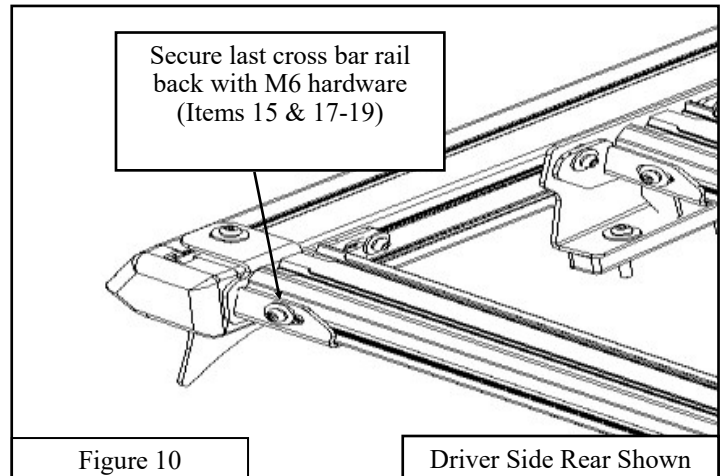

Figure 10
11. Locate 5 Cross Bar Rails (Item 3) and insert one Slide Nut (Item 15) into the slots on each side and loosely secure them to the Cross Rail Brackets (Item 10). See **Figure 10 & 11** for reference. Use M6 hardware in this step (Items 15& 17-19).